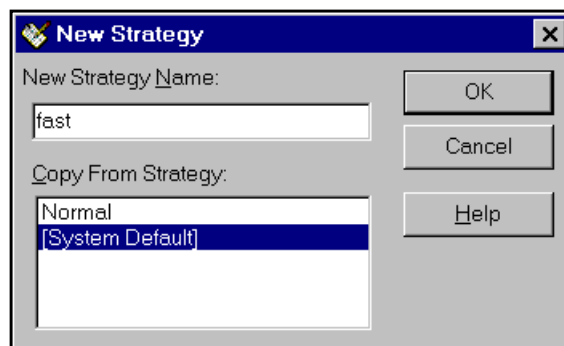

Figure 3-11. New Strategy Dialog Box
2. Click the **New** button, the New Strategy dialog box (Figure 3-11) appears.